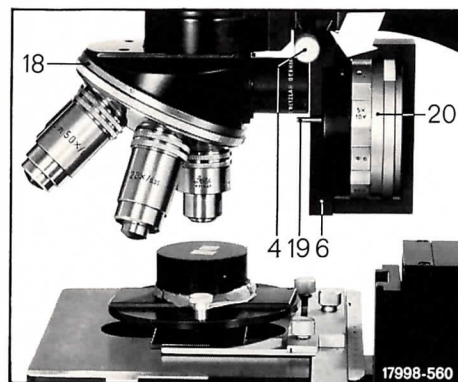
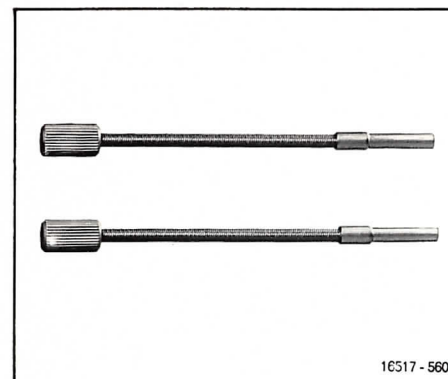

Fig. 2
Fig. 3
6. Insert the centring keys Fig. 3 into the two upper grub screws of the diaphragm drum (to the right and left of the top part of the microscope), see arrow Fig. 2.